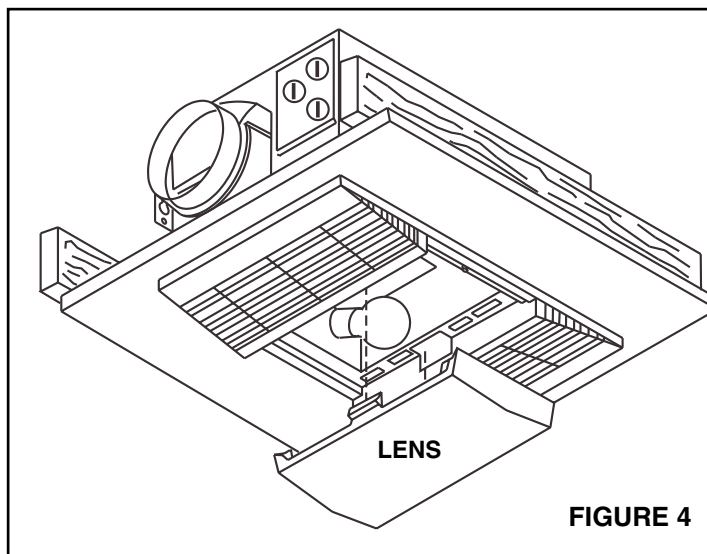

FIGURE 4
4. **Refer to Figure 4.** Snap lens into position in center of grille. To remove the lens for relamping, gently pry along the side of the lens with a screwdriver to disengage the snap in tabs while pulling down on the lens.